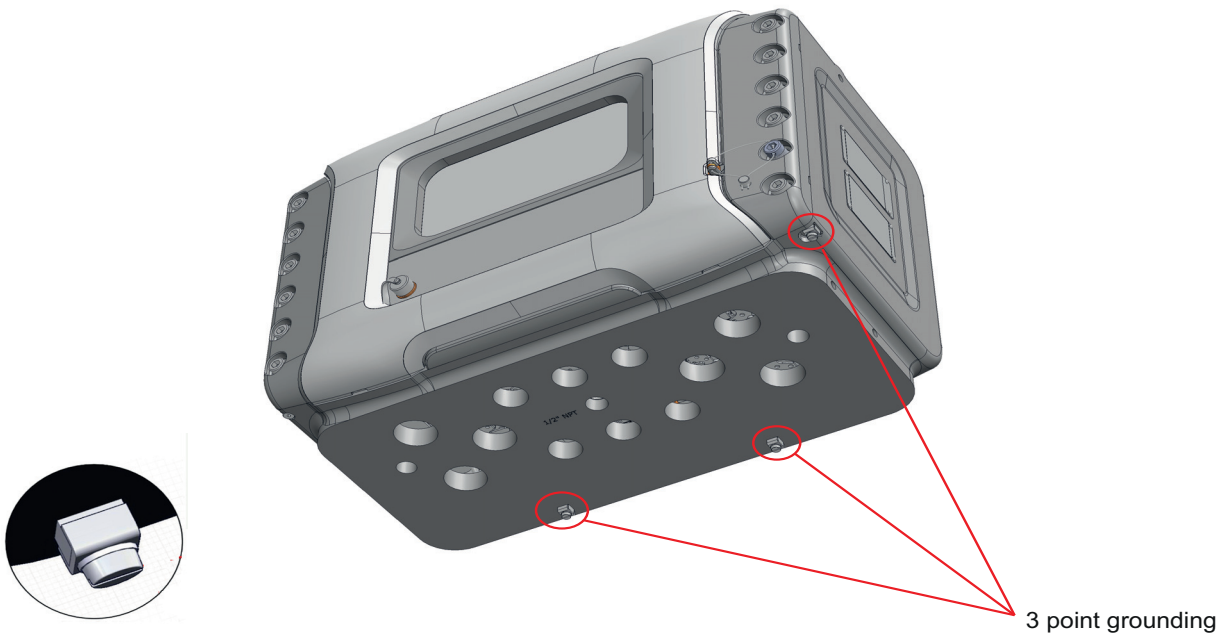
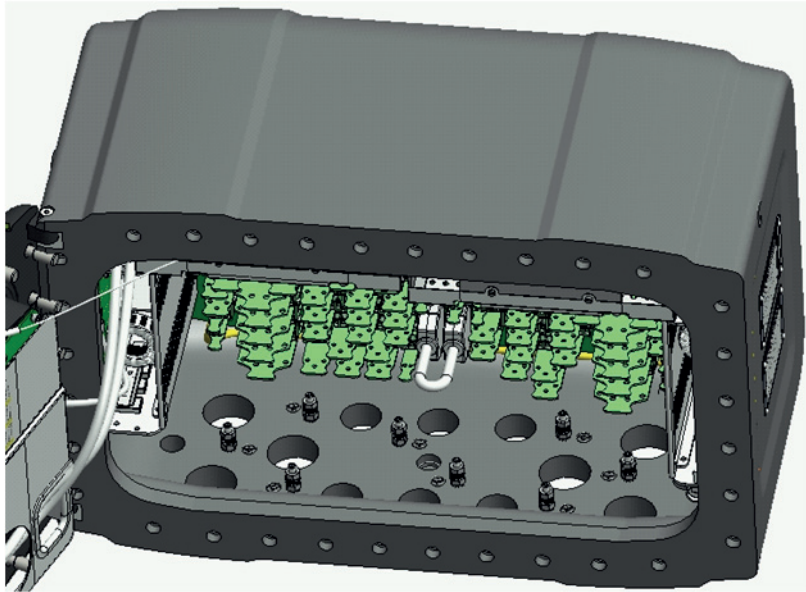

FIGURE 2-1
FIGURE 2-2
WARNING! Make sure that the housing of the MSC-A is properly bounded to the Protective Earth (PE). See FIGURE 2-1 for external grounding of the MSC-A and FIGURE 2-2 for bonding any AC mains wire.